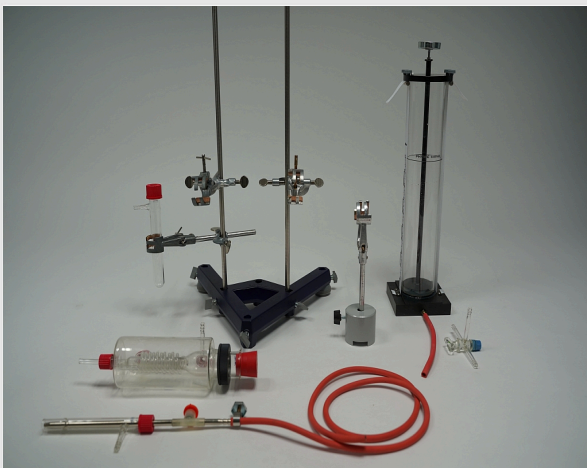

figure 1: parts of the experiment
- Prepare the experiment setup as shown in the figure 1.
- Take 3 Right angle boss-head clamp and plug them on the support rods (as shown in figure 1).